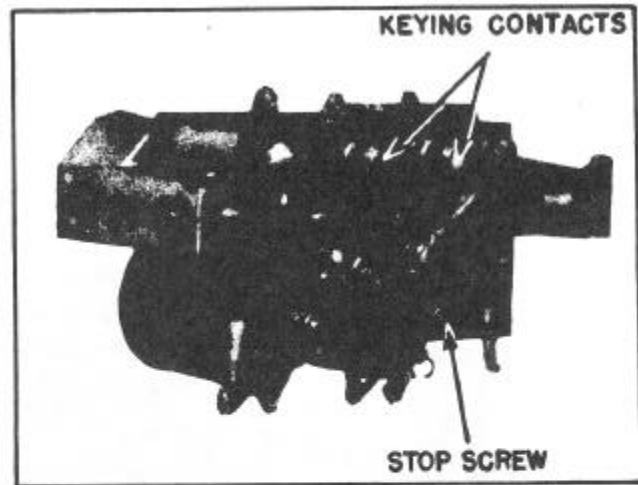

Figure 7-11—Keying Relay
(3) Turn the transmitter on by depressing the "START" button on the "MG START-STOP" switch. Close the TEST KEY to the upper or locked position.
(4) Insert the headphone plug into the "C.F.I. AUDIO OUTPUT" jack, turn the VOLUME control in a clockwise direction, and adjust the "M-O RESET" control until a loud audio note is heard at exactly 3000 kc. Bring this audio note to zero beat by means of the "M-O RESET" control. (In selecting the beat note on which to tune, turn the FREQUENCY control through 100 kc and use the loudest note in that range. There may or may not be weaker notes.)
(5) Rotate "FREQUENCY" control "A" until the "BAND 1" counter scale reads 2000 kc. Powerful beat notes should be heard at every 100-kc interval. If the circuit is properly aligned, these strong beat notes should be close to zero beat at exactly 100 kc intervals. Adjust "FREQUENCY" control "A" (not M.O. RESET) until the beat note at approximately 2000 kc is reduced to zero beat.
(6) Note the dial reading of "A", Band #1. If it is more than 0.5 kc away from 2000 kc, the circuit is out of alignment.
(7) Be certain that the circuit is out of alignment before attempting to realign it. *This process is delicate and exacting and should not be undertaken unless absolutely necessary.* If the circuit is found to be out of alignment, remove the back shield of the m-o compartment. Unfasten the balsa wood sheet from the metal shield and replace the metal shield on the back of the m-o box. Some means, such as corks, wooden plugs, or tape will have to be employed to close the access holes in the metal shield so the temperature in the box may be held constant. When an adjustment is made on a capacitor or coil, a plug may be removed, but after the adjustment has been made the plug must be replaced. The capacitors accessible through the back shield of the m-o box are C104, C139, C140, C141, and C142, all of which are adjustable. See Figure 7-11. The inductances are coils L101, L102, L103, and L104, all of which may be varied by means of an adjustment screw mounted axially in the coil. These adjustment screws and all other alignment adjusting mechanisms have been staked at the factory with Glyptal Varnish. Before any attempt is made to alter these alignment adjustment settings the varnish should be carefully removed by means of General Electric Co. No. 1501 Thinner or by acetone.
(8) Note whether "FREQUENCY" control "A" reads more or less than the actual frequency of 2000 kc. If the control reads low, then the inductance L101 is low. Should the reading of the FREQUENCY control be as much as 30 kc from 2000, a frequency meter (or radio